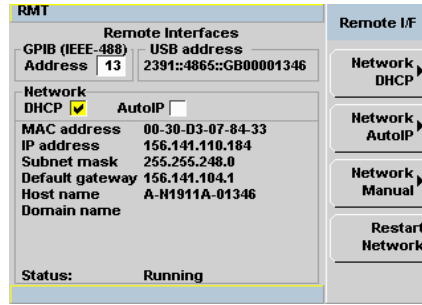

Figure 1-25 Typical LAN Remote Interface
- 1 Click , **Remote Interfaces** to display the remote interface settings (See Figure 1-25). Ensure that **AutoIP** is checked.
- 1 Click , **Remote Interfaces** to display the remote interfaces settings (See Figure 1-25).